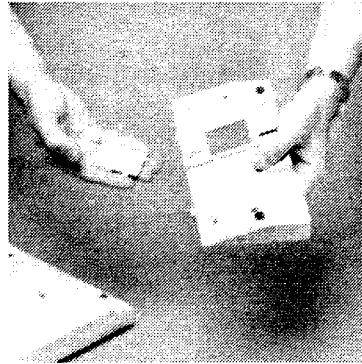

Figure 6.3 - Remove panel
3. Use a screwdriver or similar tool to remove the center knock-out panel as in Figure 6.3.